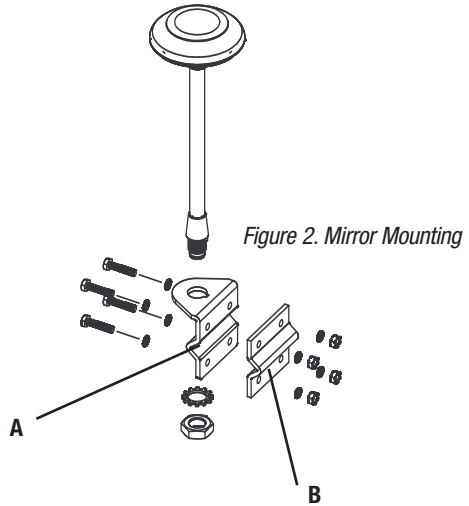

Figure 2. Mirror Mounting
1. Insert the Antenna Assembly into the Mirror Mount Clamp hole. See Figure 2 on page 5.